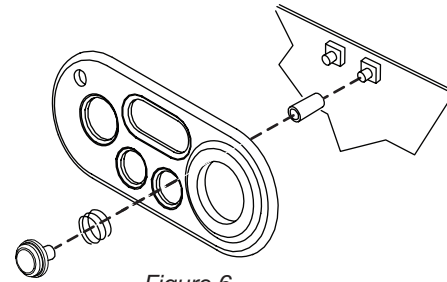

Figure 6
6. Remove the control PCB from the cradle. Remove (4) four Phillips screws from the control PCB plastic cover.
7. Remove three (3) white pin connectors from bottom of control board; two (2), 2-pin connectors and one (1), 5-pin connector.
8. Replace the old control PCB with the new control PCB. Be sure three white (3) pin connectors are connected securely to board; two (2), 2-pin connectors and one (1), 5-pin connector.
11. Insert button shaft through bezel hole. Be sure spring is between button top and outer bezel. (See Figure 6)
8. Insert new button shaft through bezel hole. Be sure spring is between button top and outer bezel. (See Figure 6)